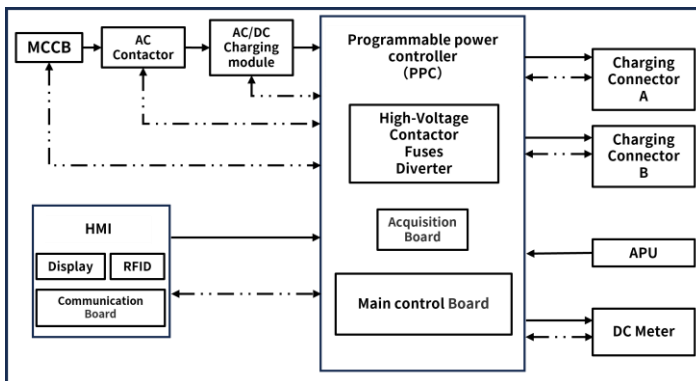

Fig. 4-2 Block diagram of SONEIL SPARK
- The block diagram of SONEIL SPARK DC Fast charging station shown as Fig. 4-2.